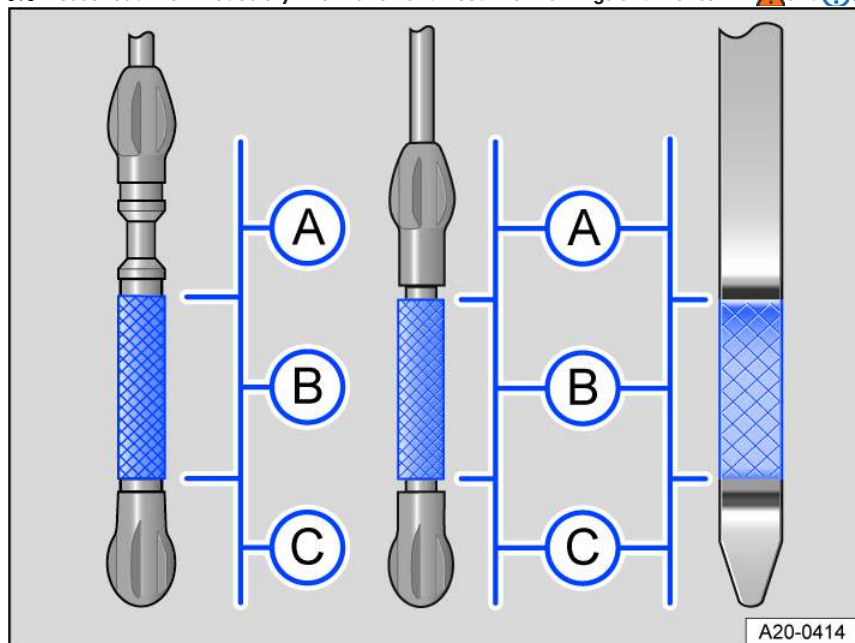
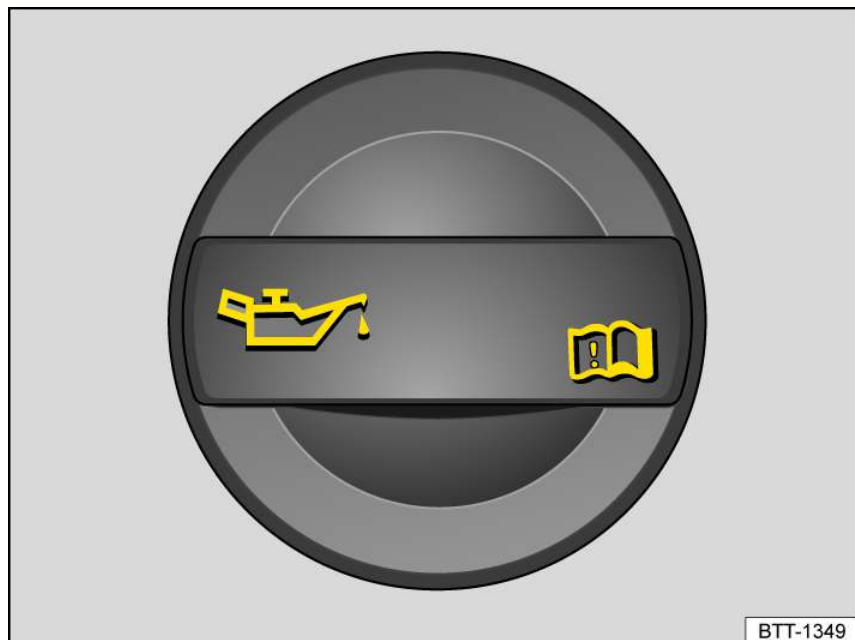

Fig. 140 Engine oil level markings on the oil dipstick (versions).
Fig. 141 In the engine compartment: engine oil filler cap (general example).
4. Find the engine oil filler and the dipstick. You can identify these by the 🛢 symbol on the engine oil filler cap *fig. 141* and the colored handle on the dipstick *fig. 140*. If you are not sure where the cap and the oil dipstick are located, contact suitably qualified professionals for assistance. Volkswagen recommends contacting an authorized Volkswagen dealer or authorized Volkswagen Service Facility.
7. Remove the dipstick again and read the oil level on the dipstick as described below *fig. 140*:
9. Remove the cap on the engine oil filler *fig. 141*.
13. When you are done adding oil, the oil level should be in the center of area *fig. 140* Ⓑ. The engine oil level must not be in the area *fig. 140* Ⓐ.
14. If you accidentally add too much oil and the oil level is in area *fig. 140* Ⓐ, **do not start the engine**. Inform an authorized Volkswagen dealer or authorized Volkswagen Service Facility. Volkswagen recommends contacting an authorized Volkswagen dealer or authorized Volkswagen Service Facility.
- If the oil level is in the *fig. 140* Ⓐ range, do not start the engine, and contact an authorized Volkswagen dealer or authorized Volkswagen Service Facility. Volkswagen recommends contacting an authorized Volkswagen dealer or authorized Volkswagen Service Facility.